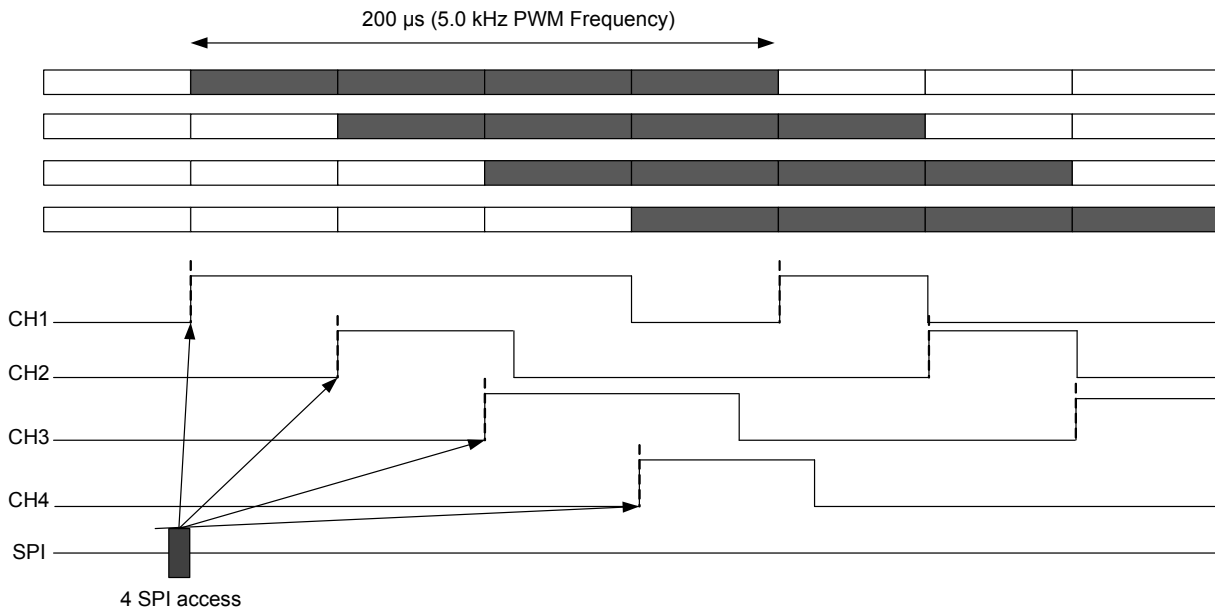

Figure 6. PWM Valve Control Interleave
9. Digital: internal digital signal delivered by interleave synchronization block. See Figure 6.